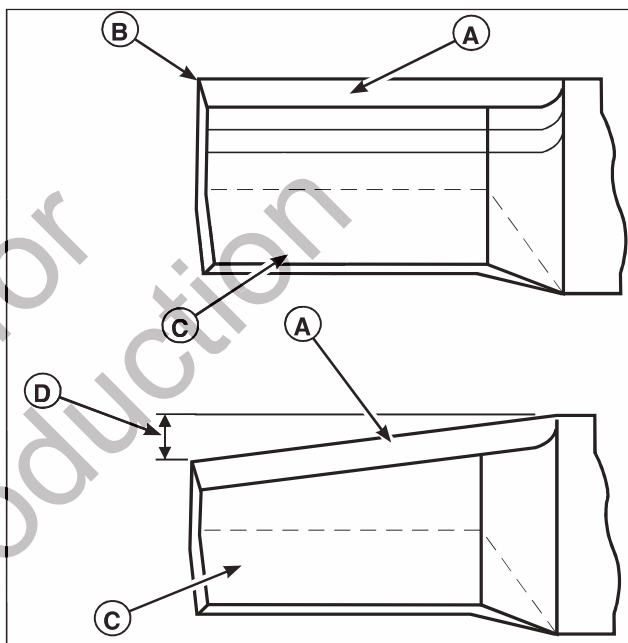

Figure 30. Inspecting the Mower Blade Tips
2. Inspect the mower blade (Figures 30 & 31). Discard the mower blade if it has any of the below conditions:
- A.) Has more than .5" (12,7 mm) of the mower blade metal removed from previous sharpening or wear (D, Figure 30).